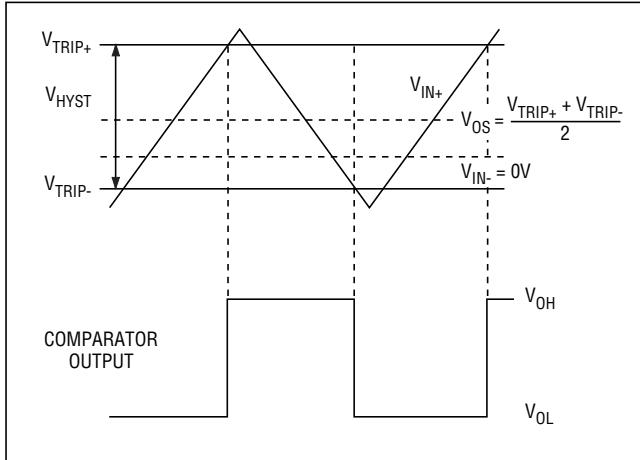

Figure 1. Input and Output Waveforms, Noninverting Input Varied
**Note 1:** Trip Point is defined as the input voltage required to make the comparator output change state. The difference between upper ( $V_{TRIP+}$ ) and lower ( $V_{TRIP-}$ ) trip points is equal to the width of the input-referred hysteresis zone ( $V_{HYST}$ ). Specified for an input common-mode voltage ( $V_{CM}$ ) of 0V (see Figure 1).
**Note 2:** Input Offset Voltage is defined as the center of the input-referred hysteresis zone. Specified for  $V_{CM} = 0V$  (see Figure 1).
Adding hysteresis to a comparator creates two trip points: one for the input voltage rising and one for the input voltage falling (Figure 1). The difference between these two input-referred trip points is the hysteresis.
Figure 1 illustrates the case where IN- is fixed and IN+ is varied. If the inputs were reversed, the figure would look the same, except the output would be inverted.